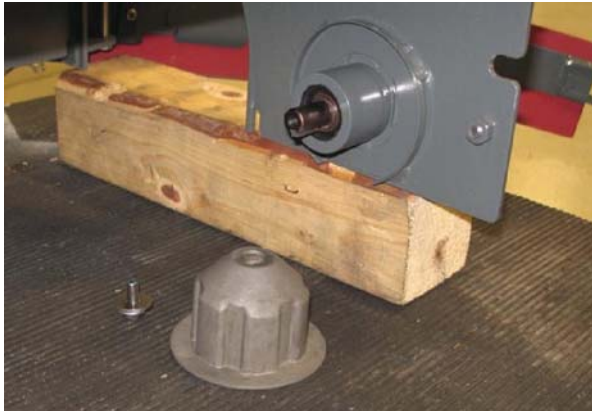
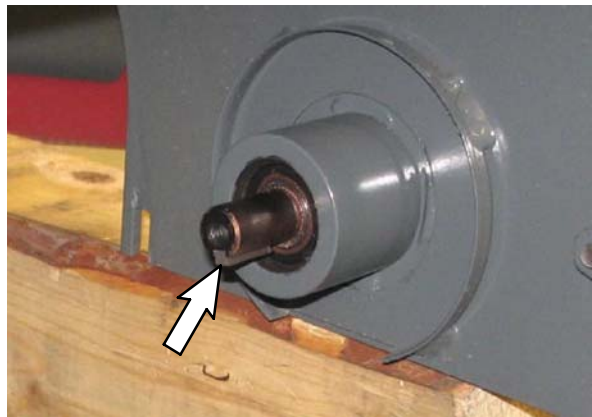

FIG. 1
FIG. 2
1. Remove both brush drive plugs from the scrub head. Be sure the key remains in place on the drive shaft when removing the brush drive plugs from the scrub head. Set the hardware aside. Discard the brush drive plugs. Refer to Fig. 1 and Fig. 2.